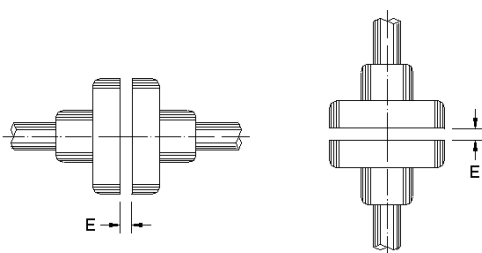

Figure 4.6: Axial clearance of the coupling (E)
Align the shaft ends carefully, and, whenever possible, use flexible coupling, leaving a minimum clearance (E) of 3 mm between the couplings, as shown in Figure 4.6.